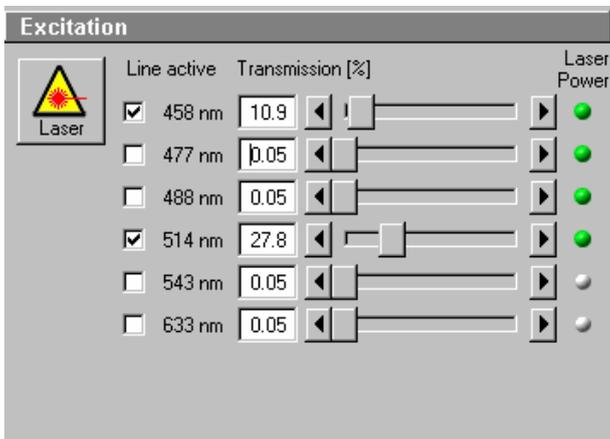

Fig. 24 Scan Control window, Channel settings
- Set the **Pinhole** to **1** Airy Unit (Fig. 24).
- When the image is saturated, reduce AOTF transmission in the **Excitation** panel (Fig. 24) using the slider to reduce the intensity of the laser light at the specimen.
- Increase the **Amplifier Offset** until all blue pixels disappear, and then make it slightly positive (Fig. 24).